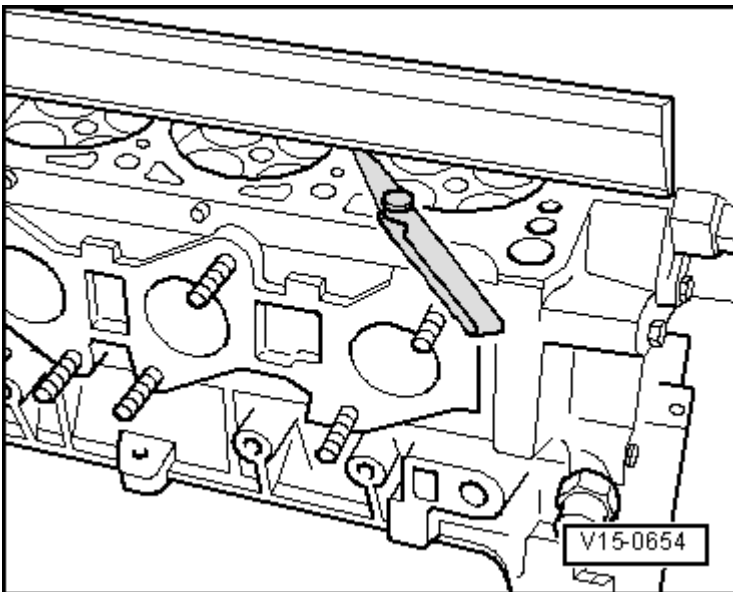

Fig. 12: Checking Cylinder Head For Distortion
- Checking cylinder head for warpage, refer to **Fig. 12**.